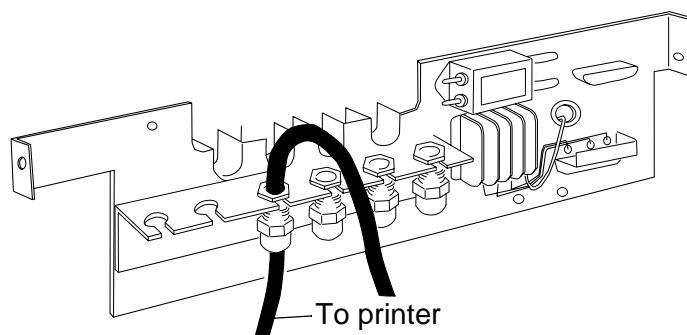

Fig. 7
- Place the bushing in the notch (refer to Fig. 7) and tighten the bushing.